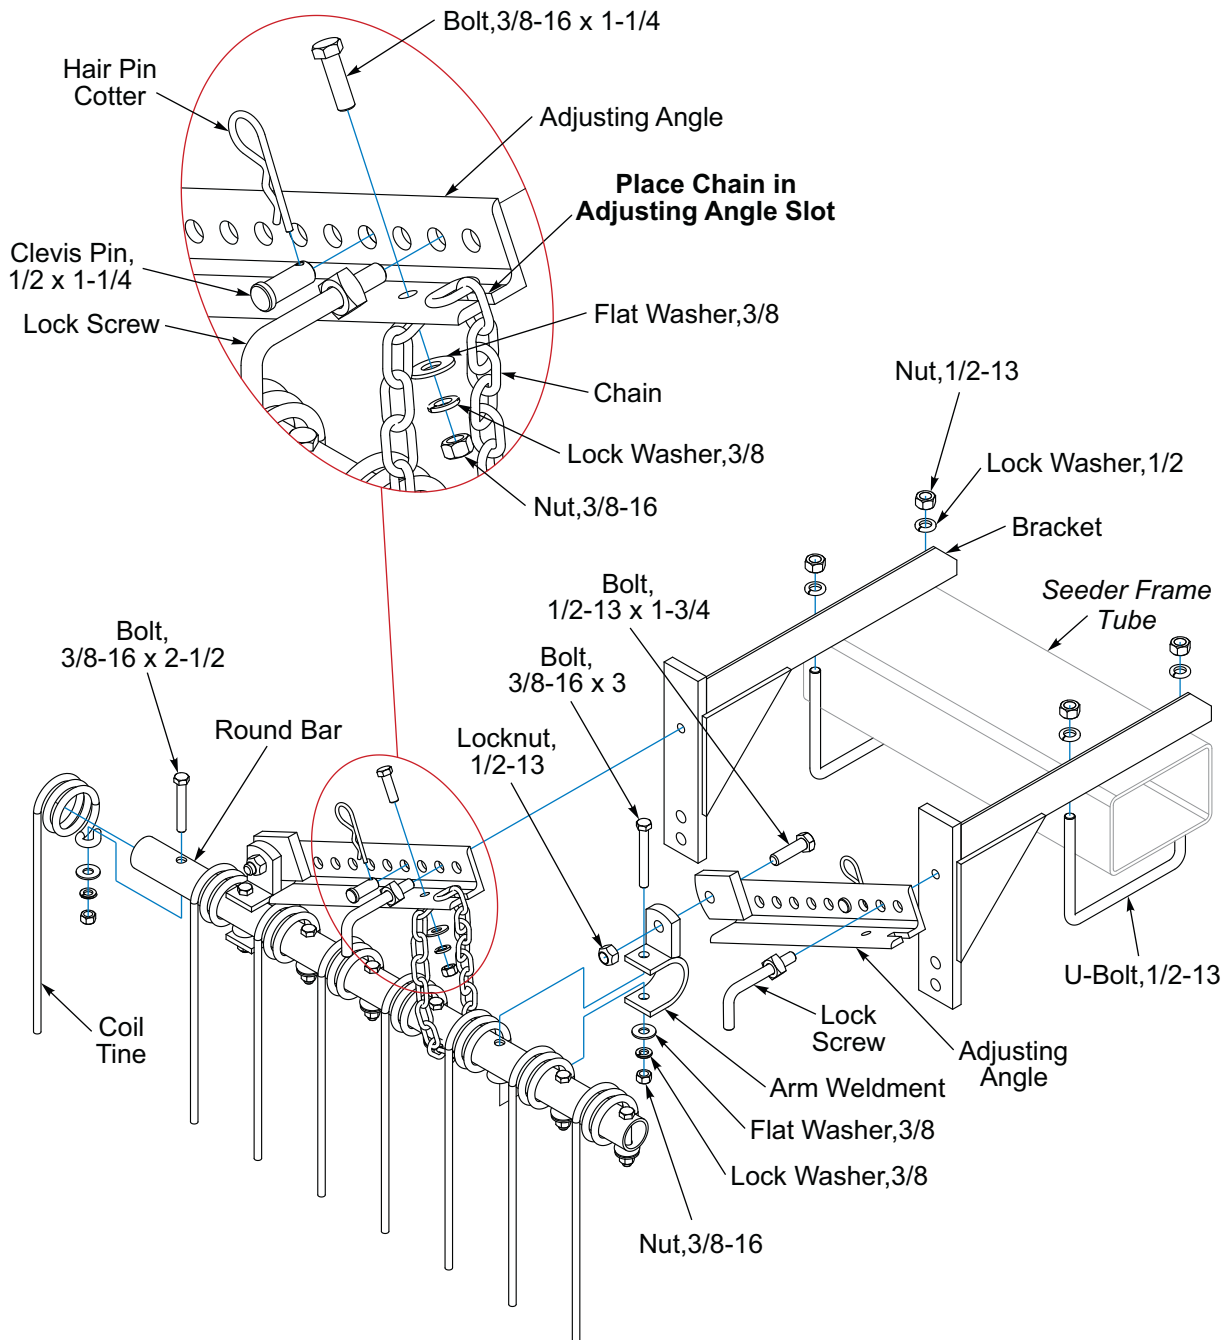

Figure 2-59: Coil Tine Track Remover - Optional
1. Slide the Coil Tines onto the Round Bar so that the straight leg is frontward. **See Figure 2-59.**